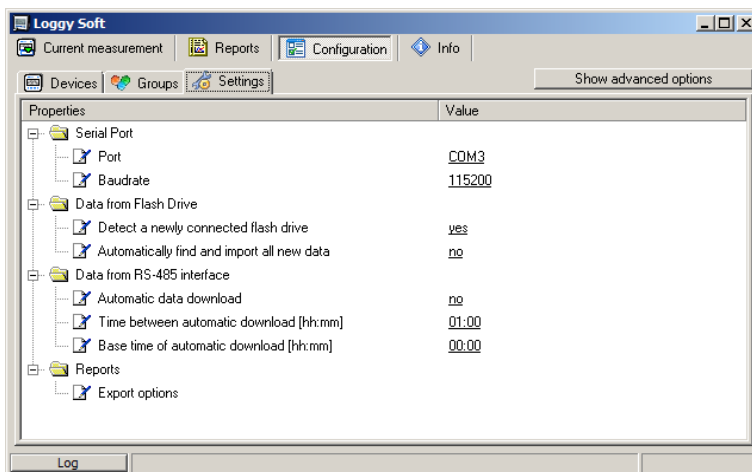

Fig. 3.19. Configuration - Settings tab (advanced options hidden)
**Settings** tab (Fig. 3.19) allows to change settings related to serial port and method of data downloading from the USB FlashDisk. The settings list contains following fields: